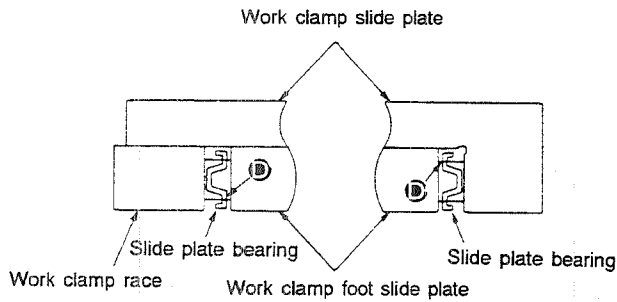

Fig. 4-7-3
- o Install the slide plate bearings with planes **D** of the respective bearings attaching to the flat side of the work clamp foot slide plate as shown in Fig. 4-7-3. Apply ESSO TEMPLEX N3 to the entire surface of the respective bearings.